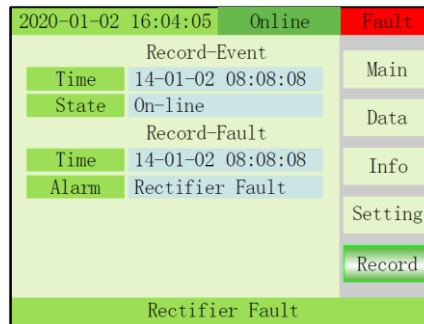

Fig. 3-21 Record menu
14) RECORD: Displays event records and fault records (Fig. 3-21).